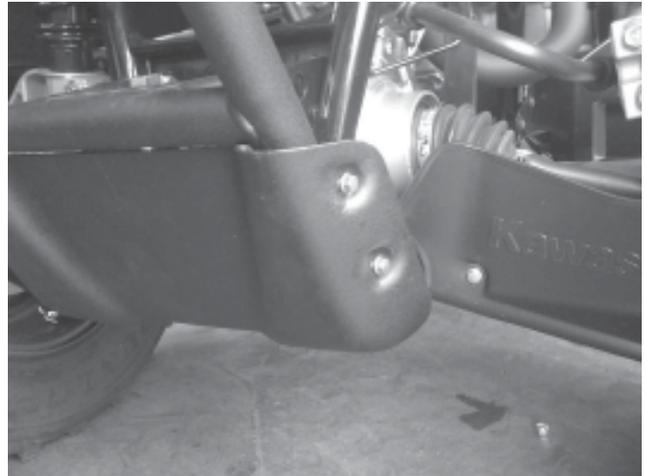

Figure 2
1. Remove the front skid plate (Figure 2). Use an 8mm socket to remove the four screws securing the front skid pan to the front bumper.